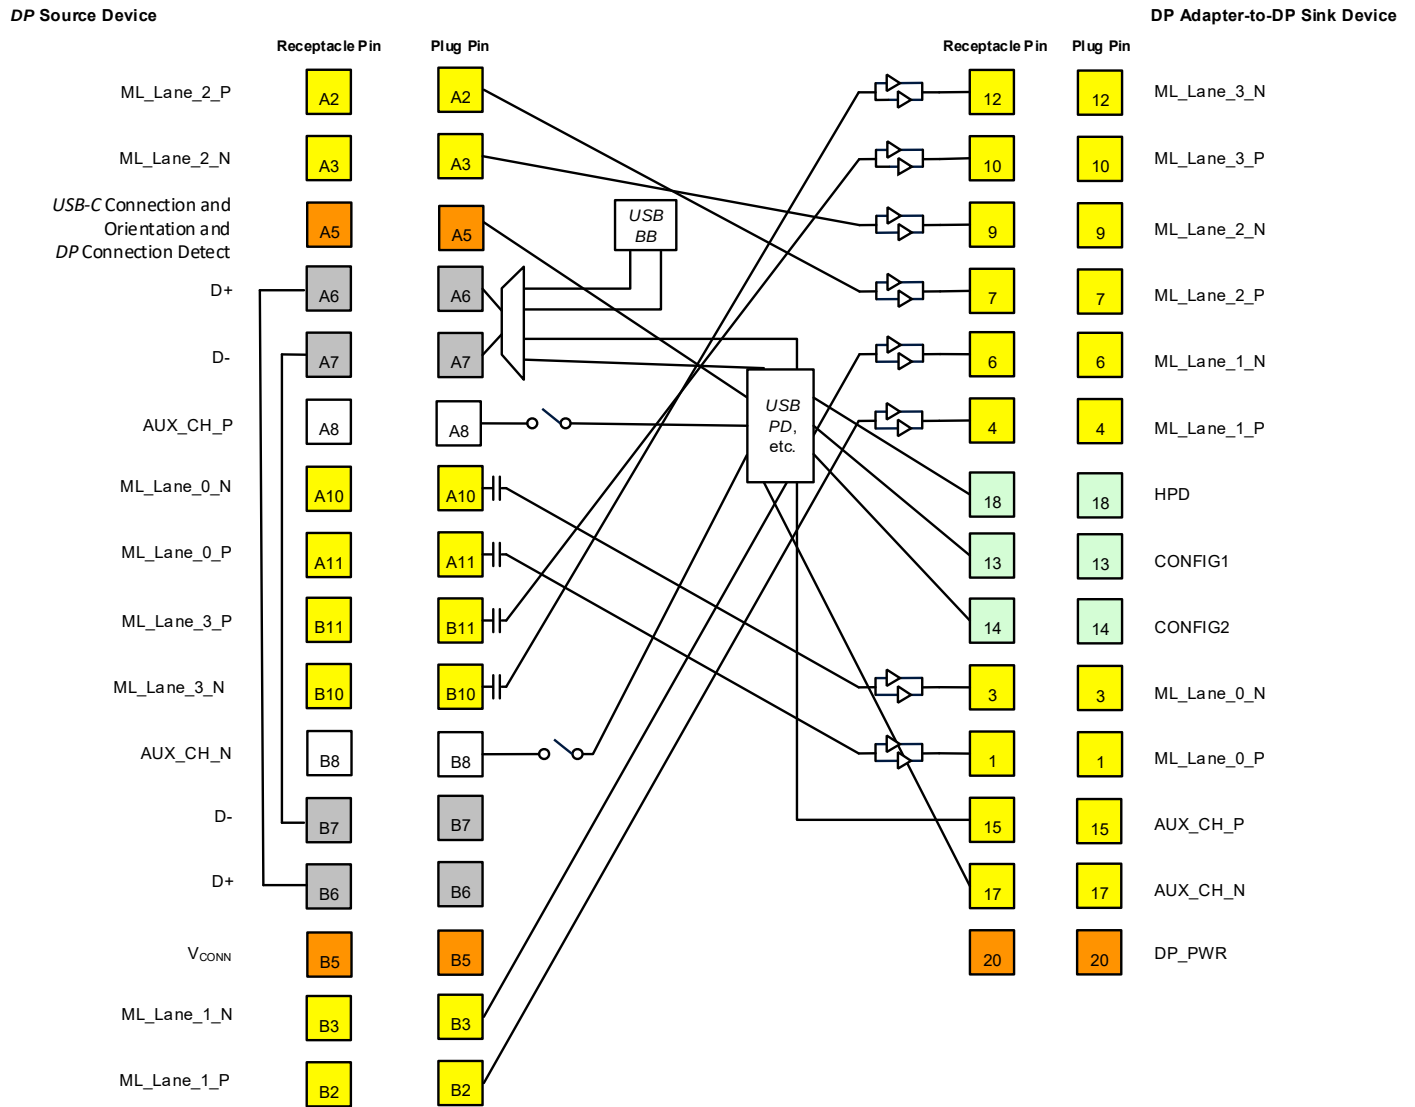

Figure 4-30: Scenario 5a Full-size DP Adapter Wiring – Normal Plug Orientation
- Figure 4-30 illustrates this use for a full-size *DP* receptacle when the *USB-C* plug is inserted in normal orientation